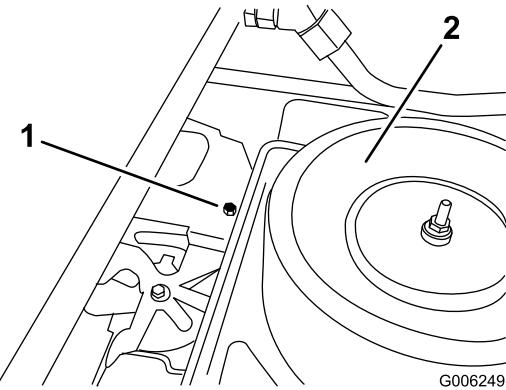

Figure 2
5. Remove the one bolt from the top of the heat shield (Figure 2).